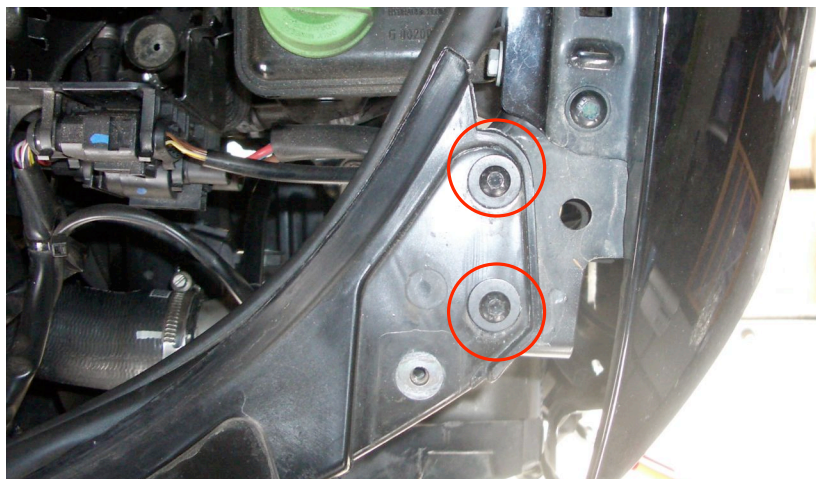

Figure 12
- 14) Loosen the **4** T27 bolts that hold the upper part of the radiator support to the right and left fenders. See Figure 12 below.